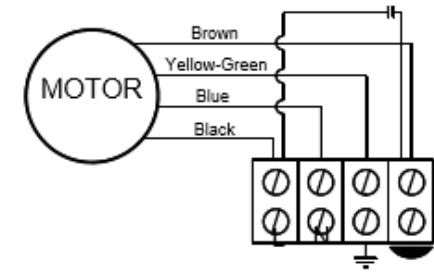

Fig. 1
- Ensure that the voltage and frequency of the electrical supply match the information stated on the name plate of the unit (maximum recommended tolerance of voltage (V) and frequency (Hz)  $\pm 5\%$ )
- Connect the electrical supply in accordance with the electrical wiring diagram in Fig 1.